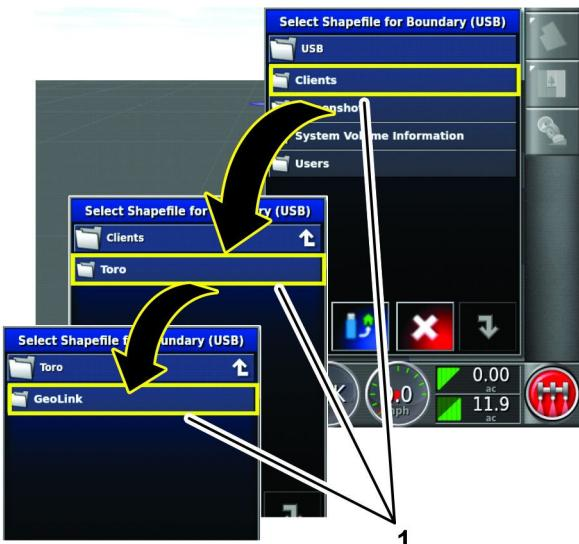

Figure 75
7. Press the directory icons to navigate to the GeoLink directory (Figure 75).